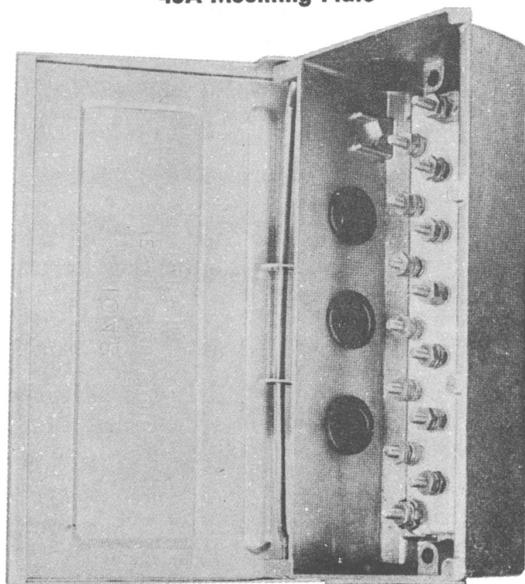

Fig. 2—104B Wire Terminal
3.02 The 104B wire terminal shown in Fig. 2 employs a mounting which is an aluminum die cast box, with a toggle-type cover similar to the cover on the 104A. It is equipped with a terminal block having facilities for connecting 6-pair multiple drop wire. Two binding posts, one at each end of the block, are strapped together internally and are used for signaling grounds.
4.03 104B: The 104B wire terminal can be mounted either horizontally or vertically. Two mounting holes are provided. (See Fig. 2.) Use No. 14 RH galvanized screws of sufficient length to mount securely.